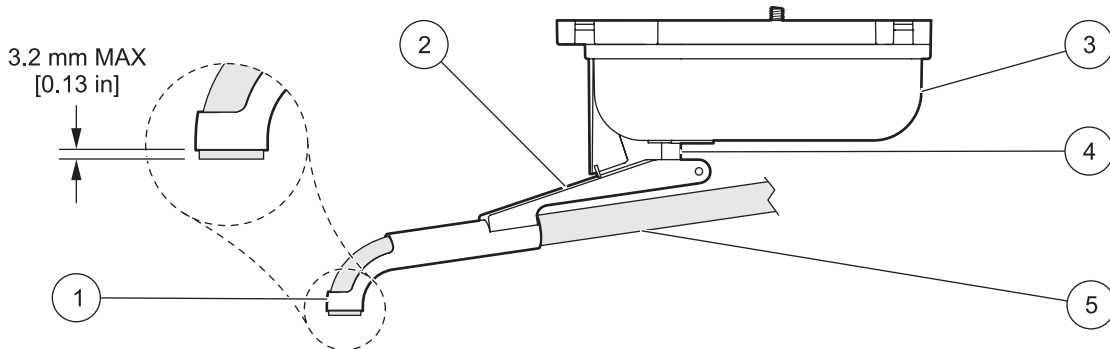

Figure 26 Distributor assembly
2. Insert the new tubing into the distributor arm so that the end of the tubing extends out of the nozzle no more than 1/8 inch (Figure 26).